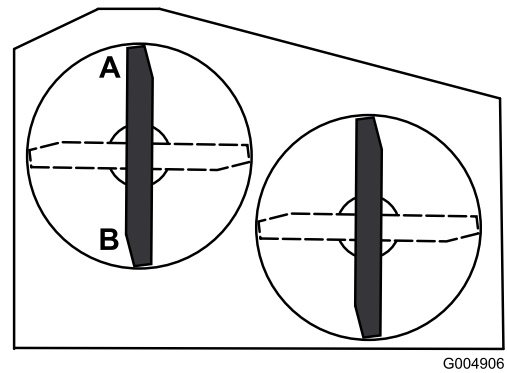
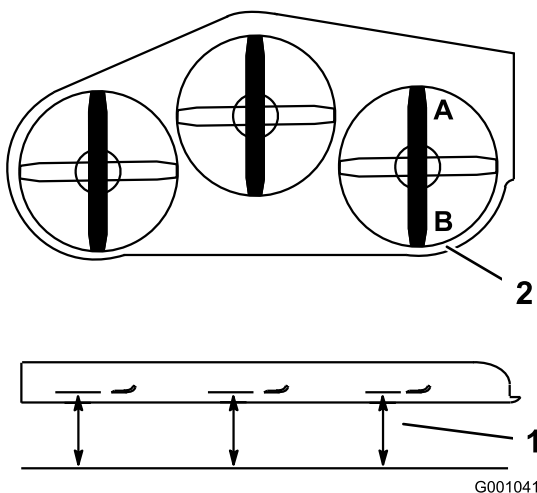

Figure 67
Figure 66
2. Position 1 blade front-to-rear. Measure at **A** and **B** locations from a level surface to the cutting edge of the blade tips (Figure 66 or Figure 67).
Note: For 36 inch mower decks use Figure 67.
5. Measure at C and D locations (Figure 66) from a level surface to the cutting edge of the blades.